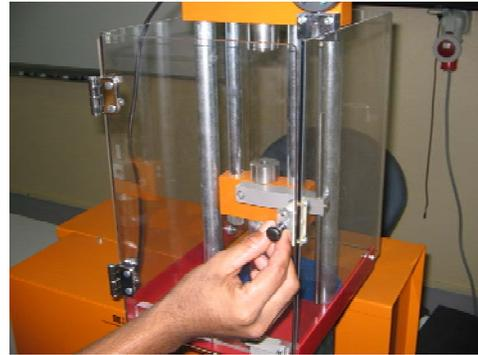

Fig. 4.14: Secure the plastic door
- Close the plastic door as shown in Fig. 4.14.